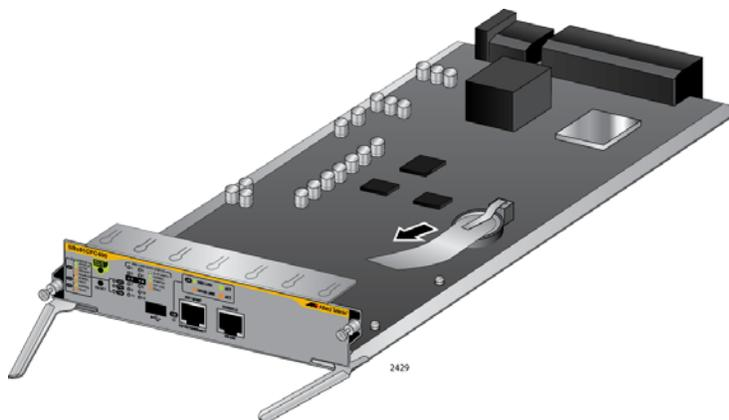

Figure 70. Removing the Battery Insulator
5. Remove the battery insulator tab on the controller card by sliding it out from between the battery and battery clip, as shown in Figure 70.